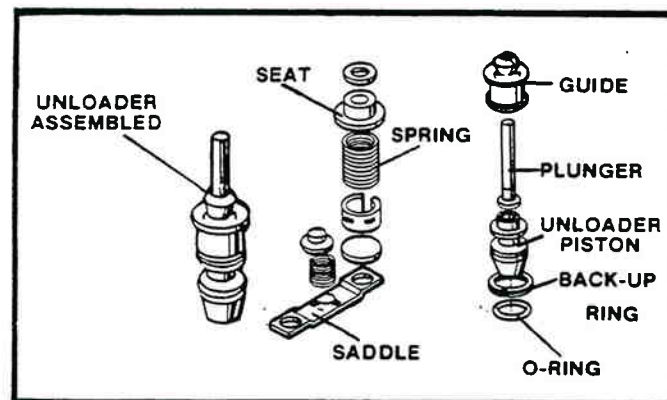

Figure 4-12. Unloader Mechanism.
20. Position the saddle between unloader piston guides so its forks are centered on the guides. Install the unloader spring making sure it seats over the spring seats both in the block and on the saddle. (See figure 4-12.)